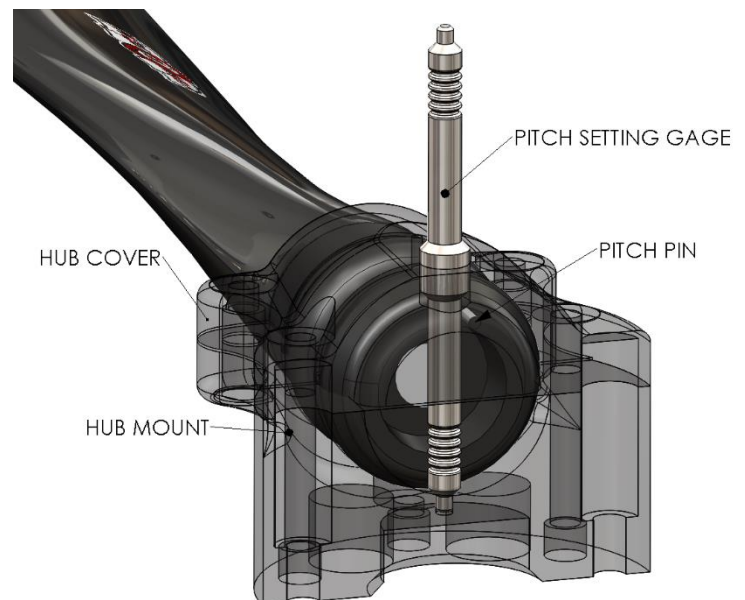

FIGURE 5. PITCH SETTING GAGE DETAIL
| FIG 5. Pitch Setting Gage | 5 |
8. Insert the pitch setting gage through the clearance hole in the hub cover half and into the receiving hole in the hub mount half. See **Figure 5**. Be sure to use the nominal setting of 4 to start. The pitch setting # indicates relative pitch; pitch 5 is higher pitch than pitch setting 4, etc...
4. Insert the desired pitch setting gauge thru the clearance hole in the hub cover half and into receiving hole in the hub mount half. See **Figure 5.**